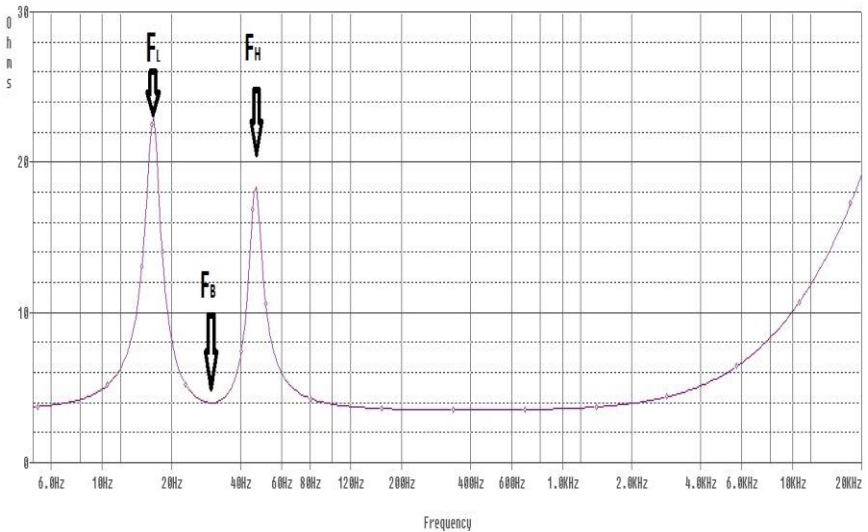

Figure 5
5. Continue increasing the frequency slowly until a **second** peak in the impedance is found. Let us call this frequency peak  $f_H$ . Ported enclosures have two impedance peaks, see Figure 5.
8. Figure 5 below shows the impedance curve of a 12 inch woofer in a ported box tuned to 30 Hz. The minimum impedance between the two peaks is  $f_B$ , the tuning frequency. This is the frequency at which the port has the highest air velocity, and the subwoofer has the lowest excursion.
Referring to Figure 5,  $f_B$  represents the tuning frequency of the system. This is the frequency at which the passive radiator has the highest excursion and the active driver has the lowest excursion.